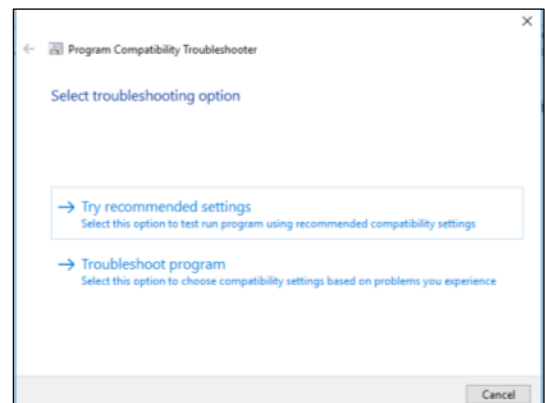

Fig. 2.10
- Then click on **Troubleshoot program** (Fig. 2.10).